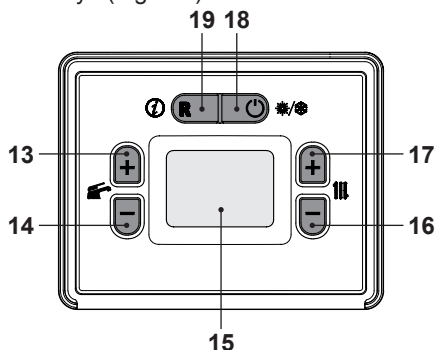

Fig. 3.1
If a radiator (or a convector) does not heat up, check that no air is present in it and that its valve is open. If the ambient temperature is too high, do not alter the radiator valves. Reduce the central heating temperature instead by means of the room thermostat or by pressing the 16 and 17 heating adjustment keys (Fig. 3.1).
To restore operation, press the reset key 19 (Fig. 3.1) on the boiler control panel.